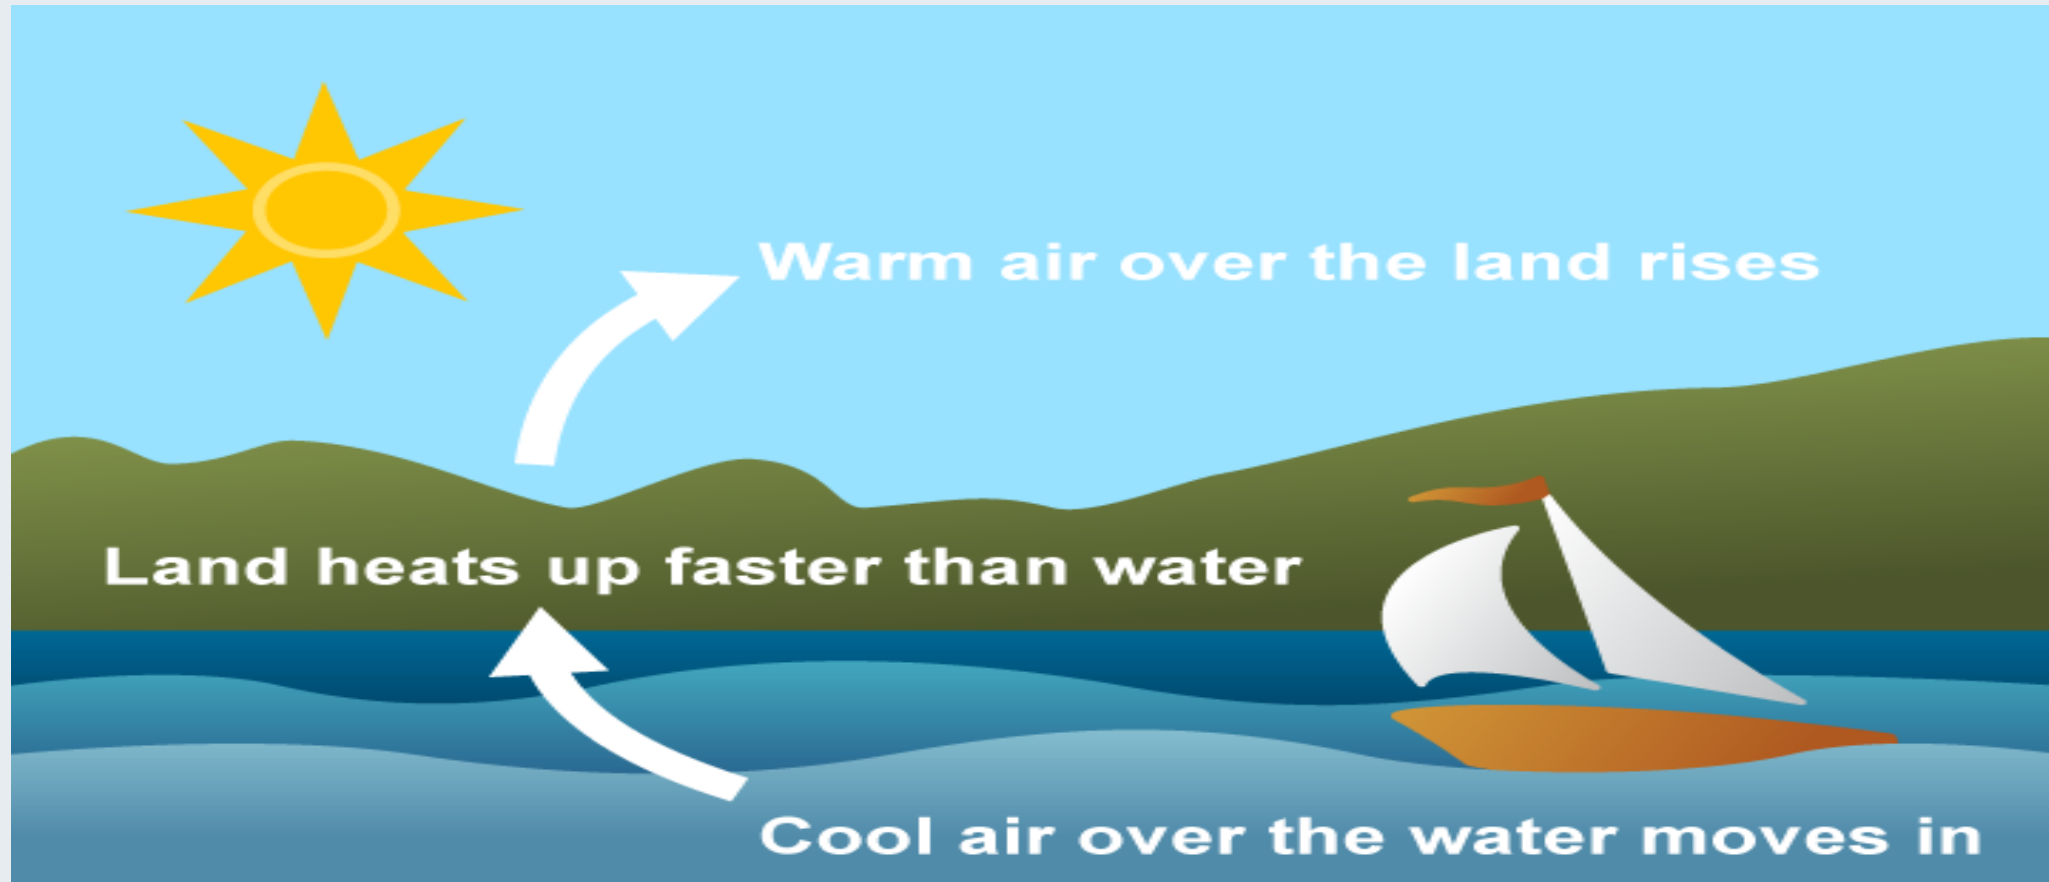

Figure 1: Formation of wind speed
- The surface of the earth heats and cools unevenly, creating atmospheric pressure zones that make air flow from high- to low-pressure areas as presented in Fig.1.